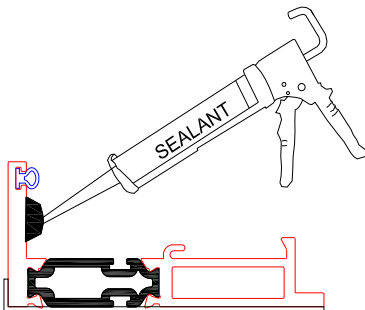

Figure 12:
1. Before glazing, apply a continuous bead of sealant to the inner frame (Figure 12).